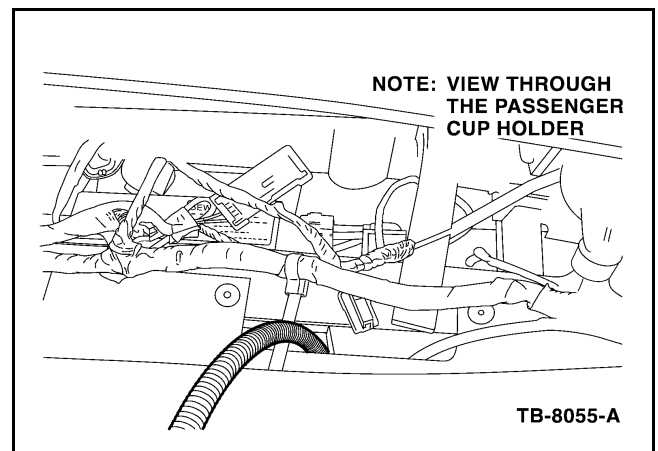

Figure 14 - Article 04-24-9
- b. Remove the passenger side cup holder and feed the non-terminated end of the twisted pair between the front cross member and kick up panel (Figure 14).